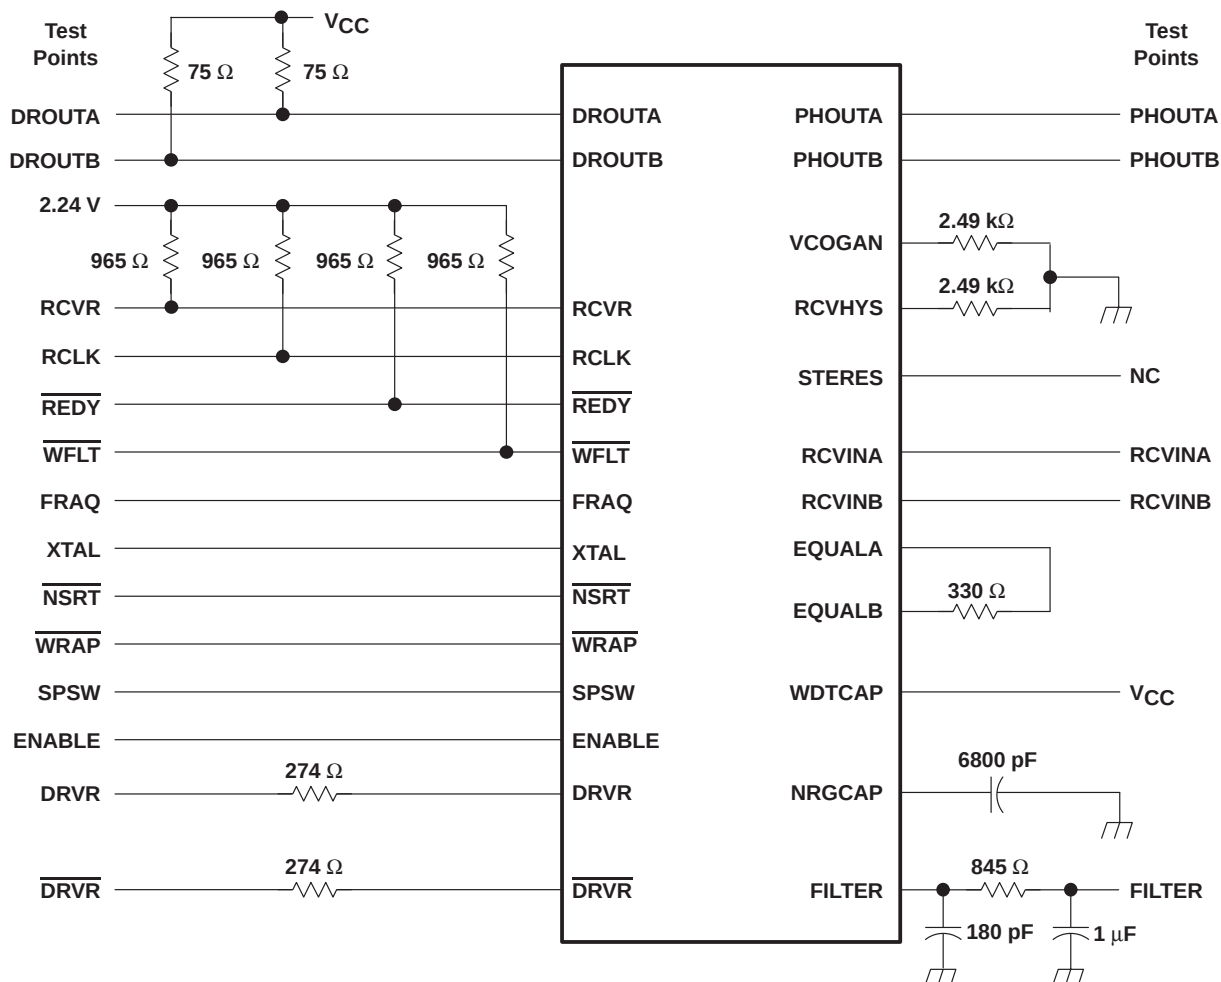

Figure 8. ac Test Circuit
transmitter (see Figures 8 and 9)
RCLK and RCVR (see Figures 8 and 10)
**loop parameters (see Figures 8, 11, and 12)**
15. The circuit of Figure 8 is used to measure phase-detector gain with  $I_{(FILTER)}$  injected at the filter test point. Figure 12 shows the relevant timing. With the TMS38054 in phase lock, the propagation delay ( $t_p$ ) between RCVINA positive transition and RCLK negative transition is measured. A value  $t_{p1}$  is seen when  $I_{(FILTER)} = I_{(FILTER)1}$ , and a value  $t_{p2}$  is seen when  $I_{(FILTER)} = I_{(FILTER)2}$ . The phase-detector gain is then calculated as  $(I_{(FILTER)2} - I_{(FILTER)1}) \div (t_{p1} - t_{p2})$ . The result is in  $\mu A/ns$  (see external filter section).
data recovery (see Figures 8 and 13 and Note 16)
energy detect ( $\overline{\text{REDY}}$ ) (see Figure 8 and Note 17)